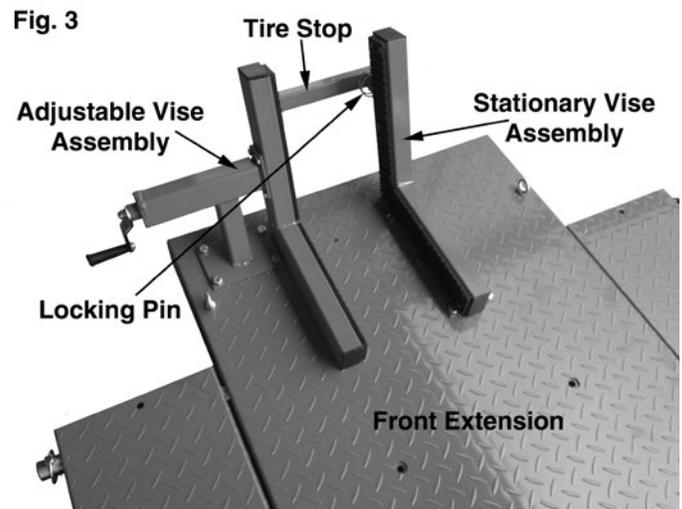

Fig. 3
1. See fig. 3 to assist you in the process of this installation. Locate the stationary vice arm and attach the tire stop to it using the locking pin.